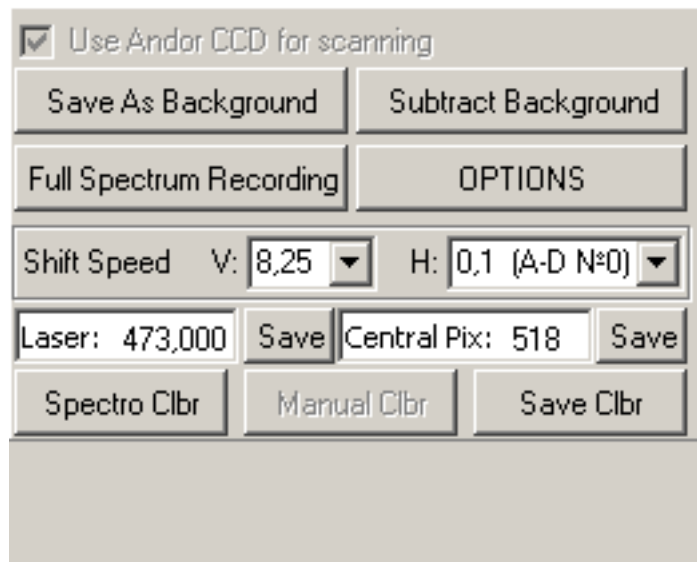

Fig. 12-14. Instrument Parameters Adjustment panel
- b. Define the horizontal speed of spectrum recording by selecting the appropriate item in the **H** list of the **Shift Speed** field (Fig. 12-14):